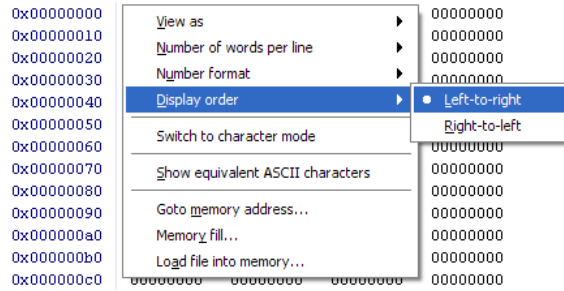

Figure 37. Display order menu in the Memory window.
- Display order: the display can display addresses increasing from left-to-right or right-to-left. Configure this option by right-clicking on the **Memory** window, as shown in Figure 37.